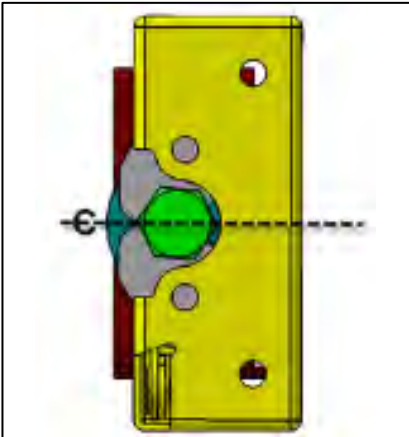
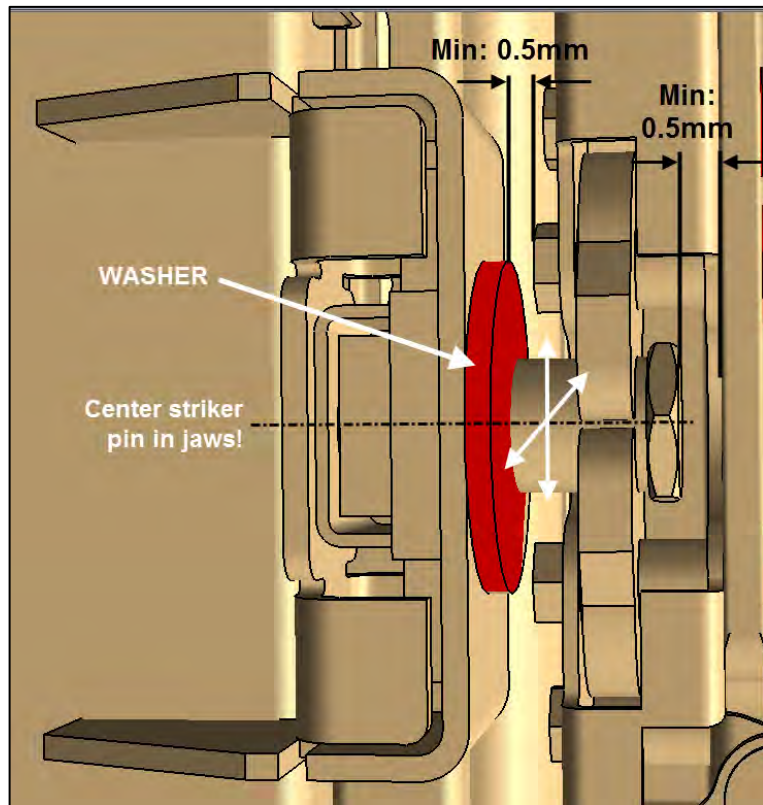

Figure 27
Figure 28
(Figure 27, Figure 28)
30. Check gaps as shown on Figure 28. Min **1/64"** (0.5mm)